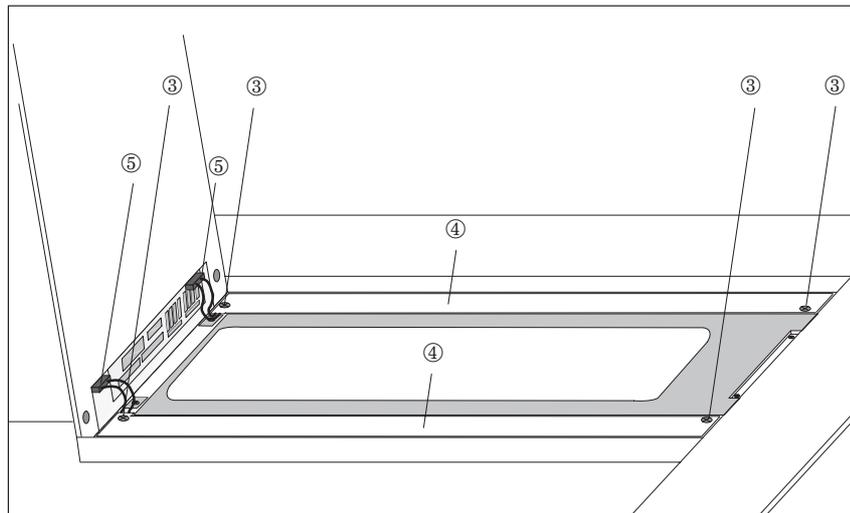

Figure 18-1 Replacing the back-lighting
3	<p>Undo two screws per fluorescent tube ③ (figure 18-1) and remove the covers ④.</p>